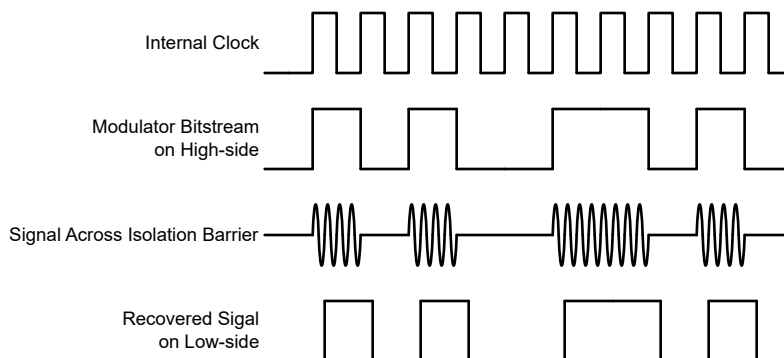

Figure 7-1. OOK-Based Modulation Scheme
As shown in Figure 7-1, the AMC0381R uses an on-off keying (OOK) modulation scheme to transmit the modulator output bitstream across the SiO₂-based isolation barrier. The transmit driver (TX) is illustrated in the Functional Block Diagram. TX transmits an internally generated, high-frequency carrier across the isolation barrier to represent a digital *one*. However, TX does not send a signal to represent a digital *zero*. The nominal frequency of the carrier used inside the AMC0381R is 480MHz.